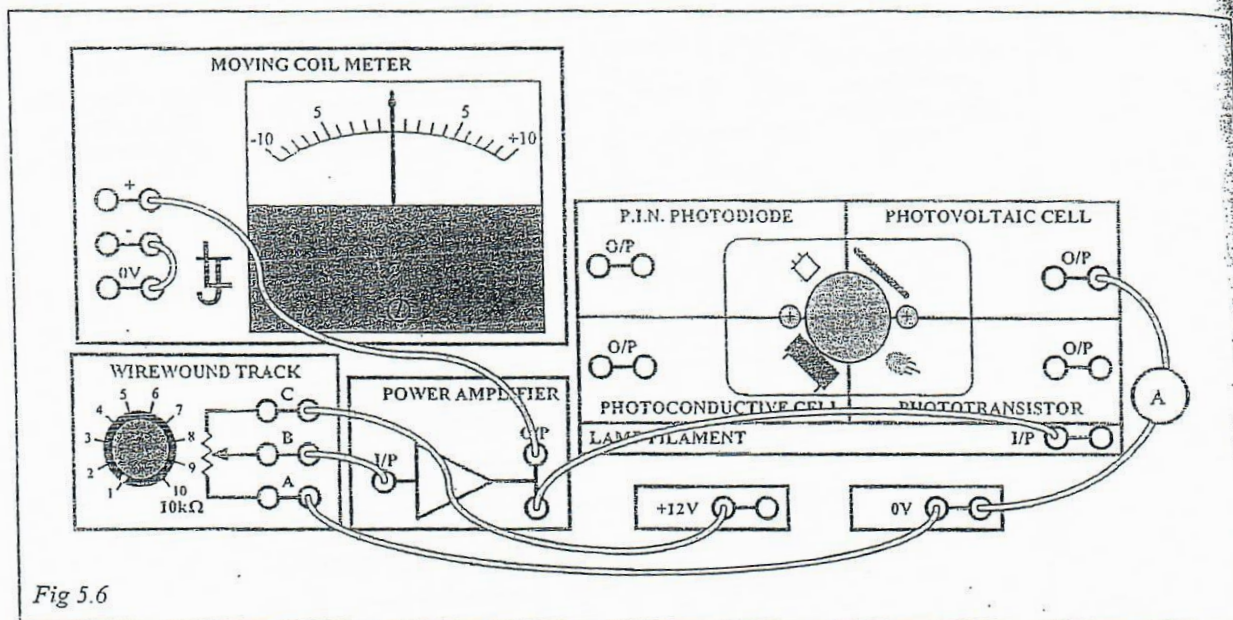

Fig 5.6
- ⊙ Connect the circuit as shown in Fig 5.6 with the digital multimeter (ammeter) on the 2mA range to measure the short circuit current between the Photovoltaic Cell output and Ground. Fit an opaque box over the Clear Plastic Enclosure to exclude all ambient light.